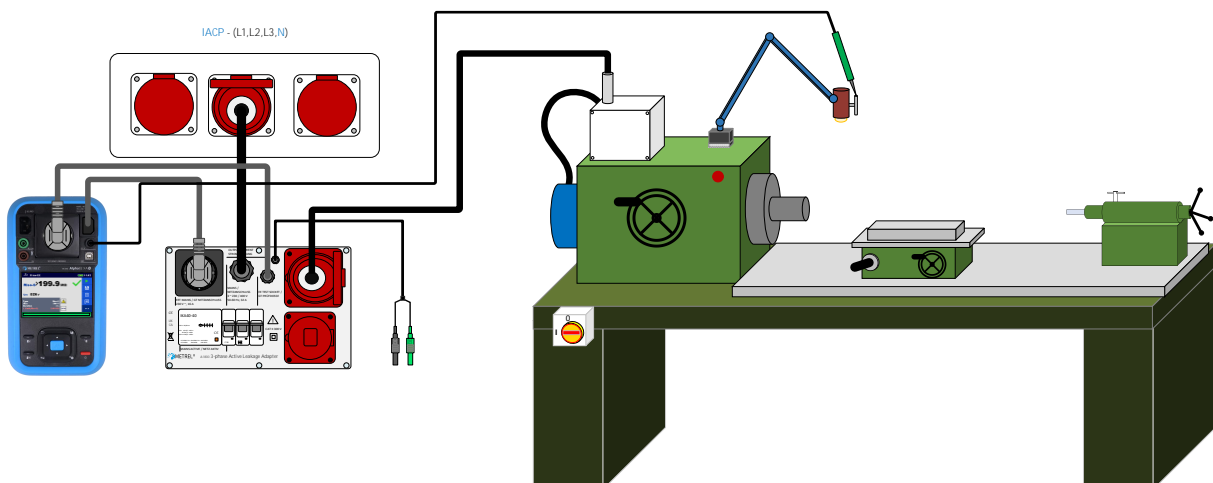

Figure 124_Insulation resistance between IACP and live parts
- Connect the DUT according to the connection diagram Figure 124_Insulation resistance between IACP and live parts,